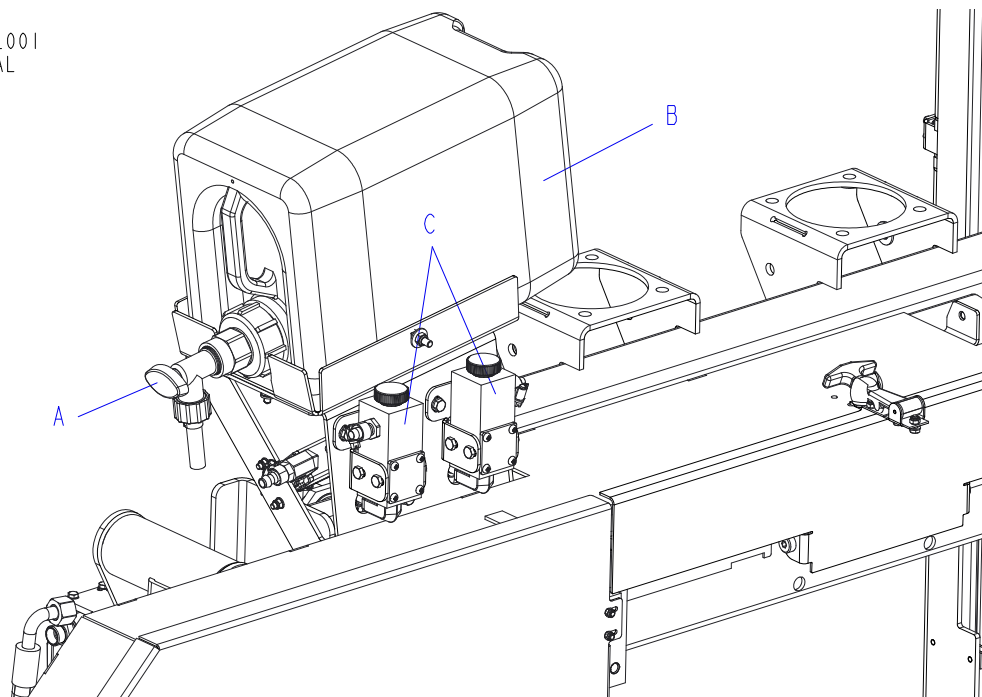

FIG. 2-11
**See Figure 2-11.** The Lube System keeps the blade and the wheels clean and cools them. When the shut-off valve (A) is open, the coolant (ACP-1 oil) flows from the tank (B) through the hoses to surfaces of the wheels. Oil dispensers (C) located on the saw head control the amount of oil flow.